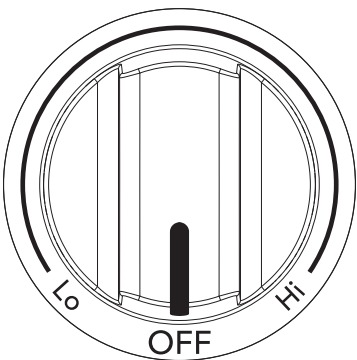

Figure 14: Keep warm knob
- 1. Push in the knob and turn in either direction (see Figure 14). The temperatures are designated by hi and lo. However, the control can be set at any position between Hi and Lo for different levels of warming.